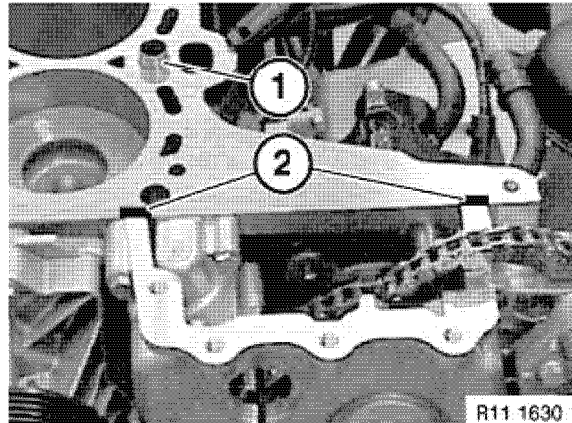

Figure 5-36
- Check condition and placement of alignment dowel sleeves (1, **Figure 5-36**).
- Ensure the gasket surfaces of the cylinder head and cylinder block are clean and dry. Transition areas (2, **Figure 5-36**) must be absolutely clean of grease and oil.